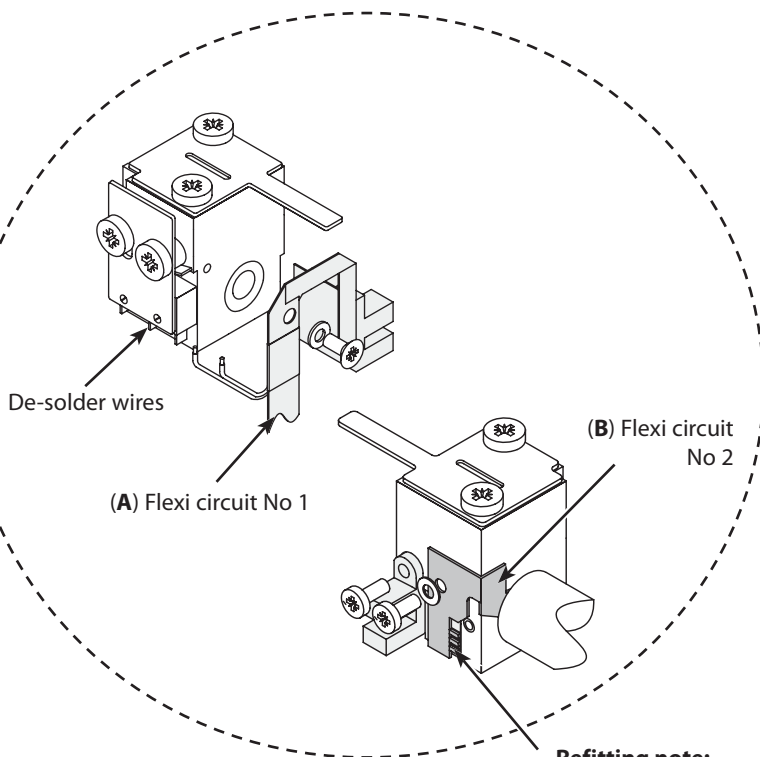

Figure 2.
4. Disconnect (de-solder) the flexi circuits from each other (see Figure 2). Remove the three screws securing the flexi circuit to the carriage block.